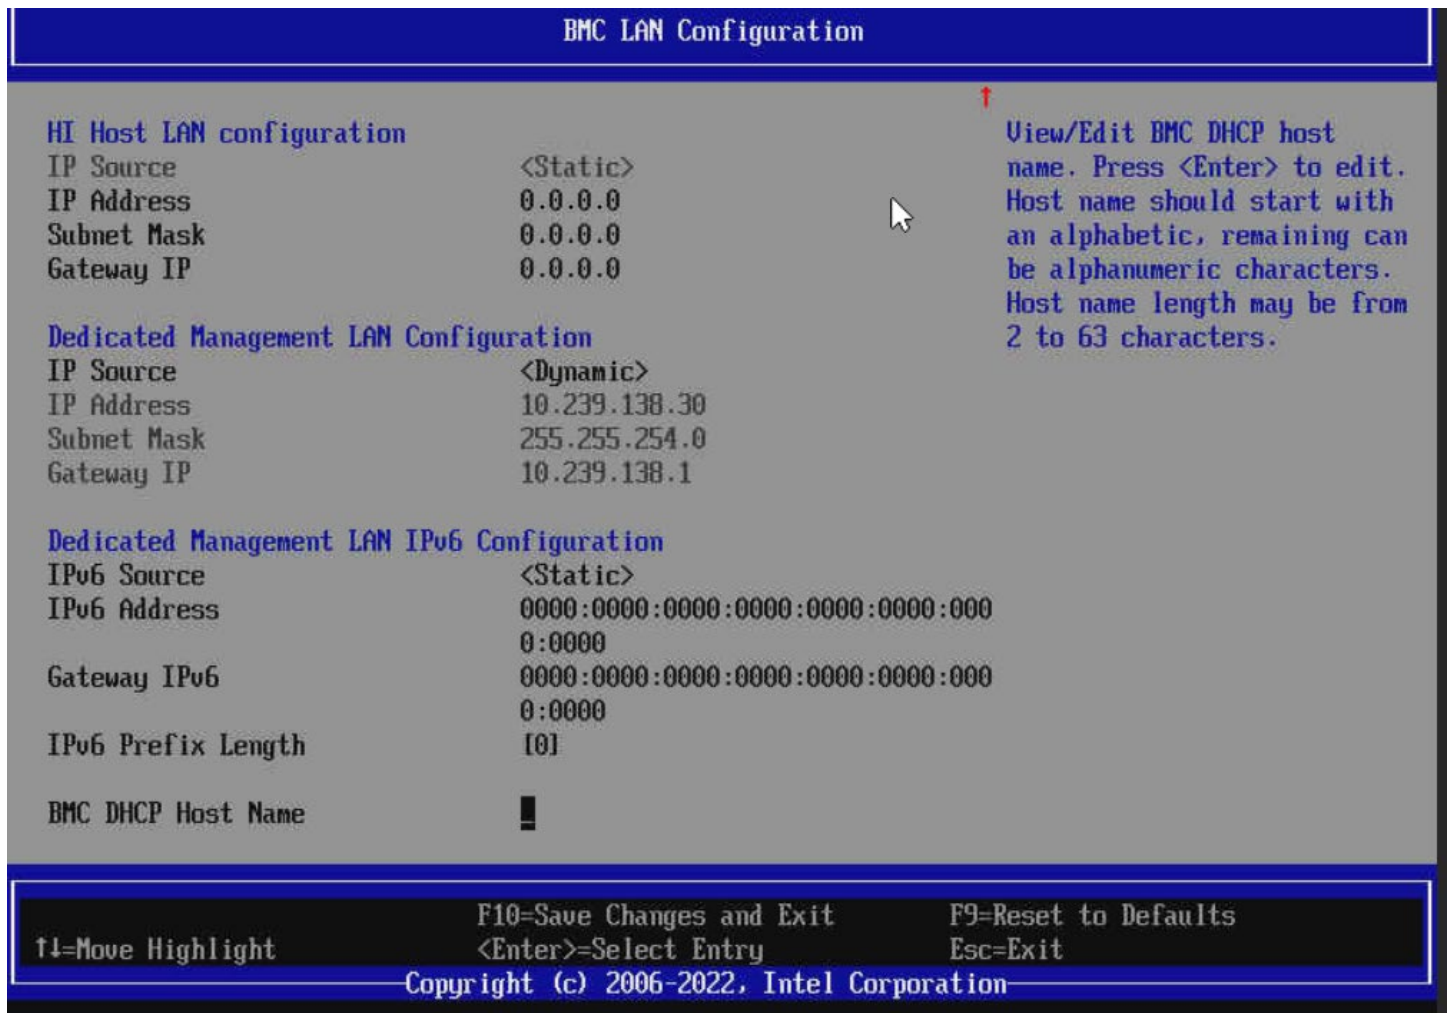

Figure 24. BMC LAN Configuration Screen of the BIOS Setup Utility
2. Navigate to the **Server Management** tab and select **BMC LAN Configuration** to enter the BMC LAN Configuration screen (see Figure 24).